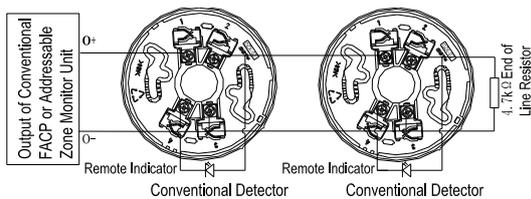

Fig. 6
- ✧ When the detector is connected with conventional FACP or addressable zone monitor unit, if a 4.7kΩ end of line resistor is connected to the end of output loop, DB-01 base is used. The system composition is shown in Fig. 6.